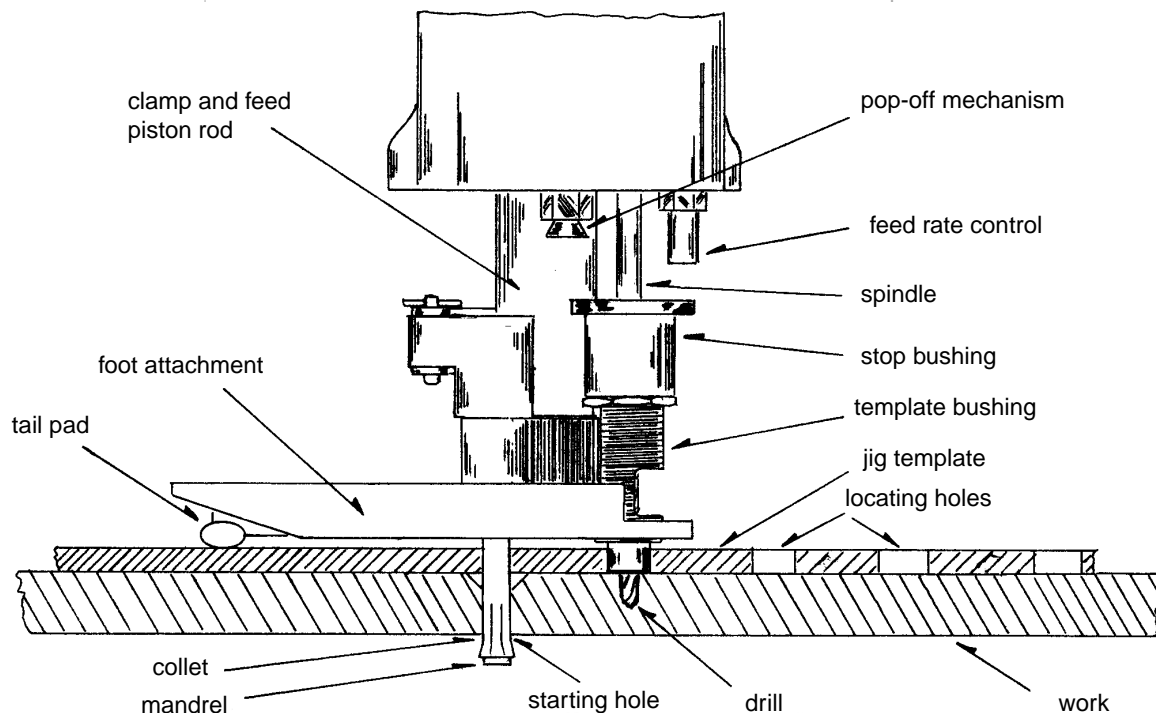

Figure 8 - Drillmotor Operation
5.4.1 Operating Cycle (see Figure 8)